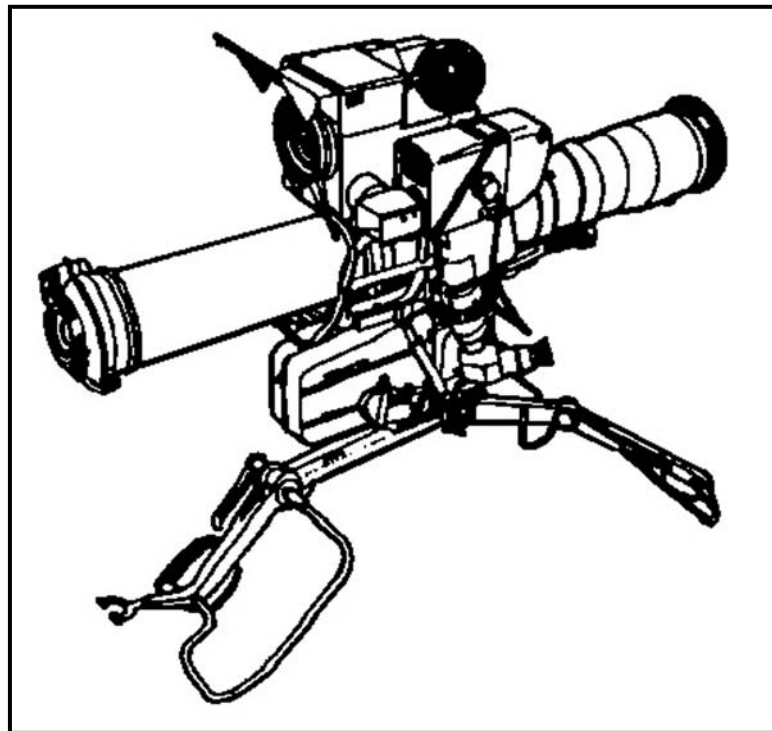

Figure H-15. Russian ATGM launcher, AT-4/AT-5.
b. **Russian ATGM Launcher, AT-4/AT-5** (Figure H-15, page H-12).